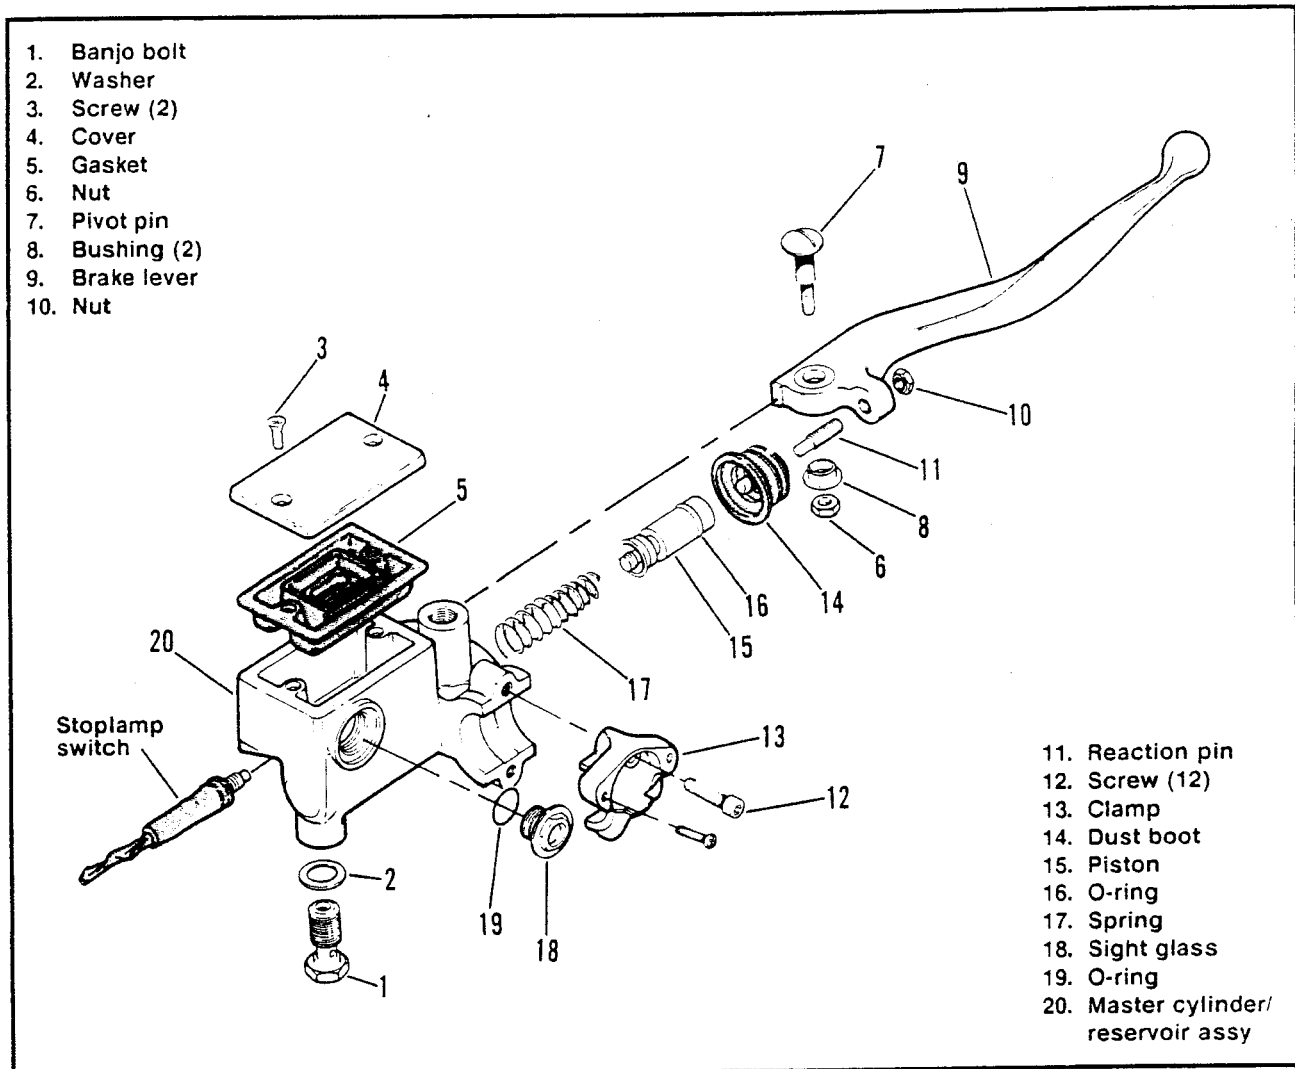
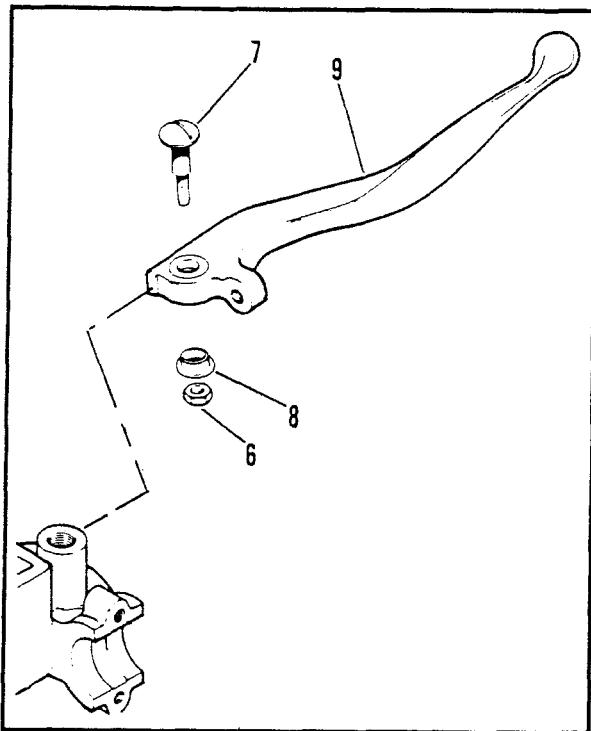

Figure 5-80. Front Master Cylinder
Figure 5-81. Front Brake Hand Lever and Reservoir
FRONT BRAKE MASTER CYLINDER REMOVAL/DISASSEMBLY (Figure 5-80)
CLEANING, INSPECTION AND REPAIR (Figure 5-80)
2. See Figure 5-80. Coat O-ring (19) with D.O.T. 3 Hydraulic Brake Fluid and install sight glass (18) and O-ring, if removed.
3. Install spring (17). Assemble piston (15) with O-ring (16) and dust boot (14).
4. See Figure 5-81. Lightly coat pivot pin (7) and bushings (8) with Loctite ANTI-SEIZE. Assemble the brake lever (9) to the master cylinder/reservoir assembly (20) using pivot pin and bushings. Check front brake lever for proper operation. Wipe off excess ANTI-SEIZE.
5. See Figure 5-80. Install master cylinder to handlebar by installing clamp (13) and screws (12). Tighten screws to 70-80 in-lbs torque.